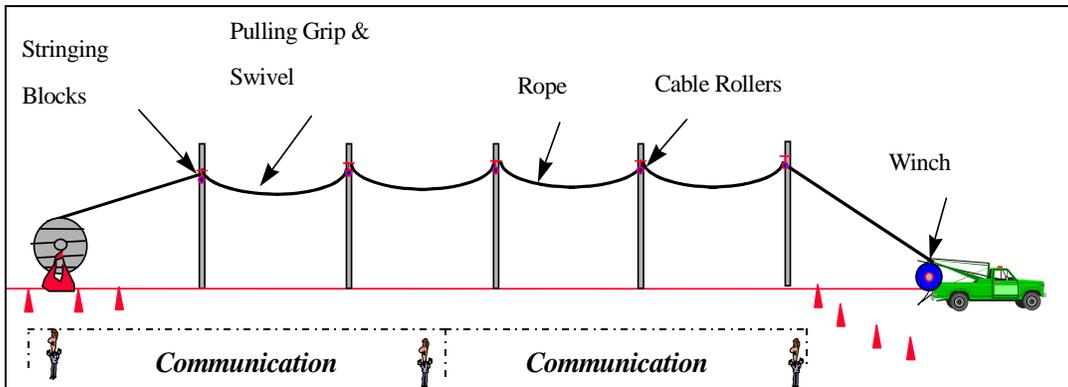

Figure 7 - Stationary Reel Method for Pulling Cable
6.1 This procedure assumes a stationary reel method of installation where the pulling rope and stringing blocks are installed prior to the installation of the cable (see Figure 7). Determination of the installation method will depend upon local conditions.